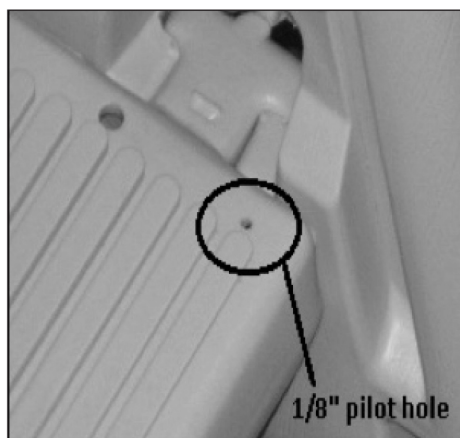

FIGURE 1
1. DRILL A 1/8" PILOT HOLE IN THE TOP RIGHT HAND CORNER OF THE SECOND TREAD. SEE FIGURE 1.